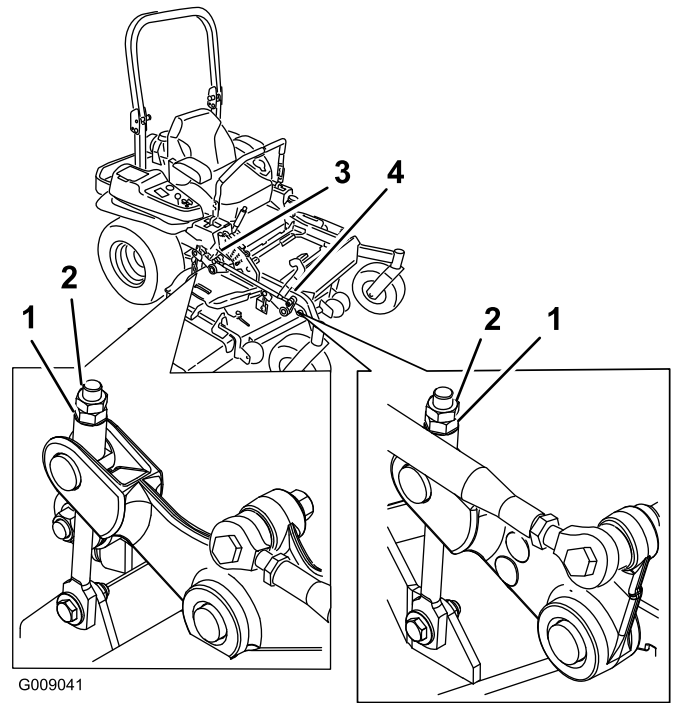

**Figure 86**
9. On both sides of the deck, measure from the level surface to the front tip of the blade (Position A). The measurement should read 3 inches (7.6 mm) (Figure 86).
- On both sides of the deck, measure from the level surface to the back tip of the blade (Position B). The measurement should read 3 1/4 inches (8.3 cm) (Figure 86).